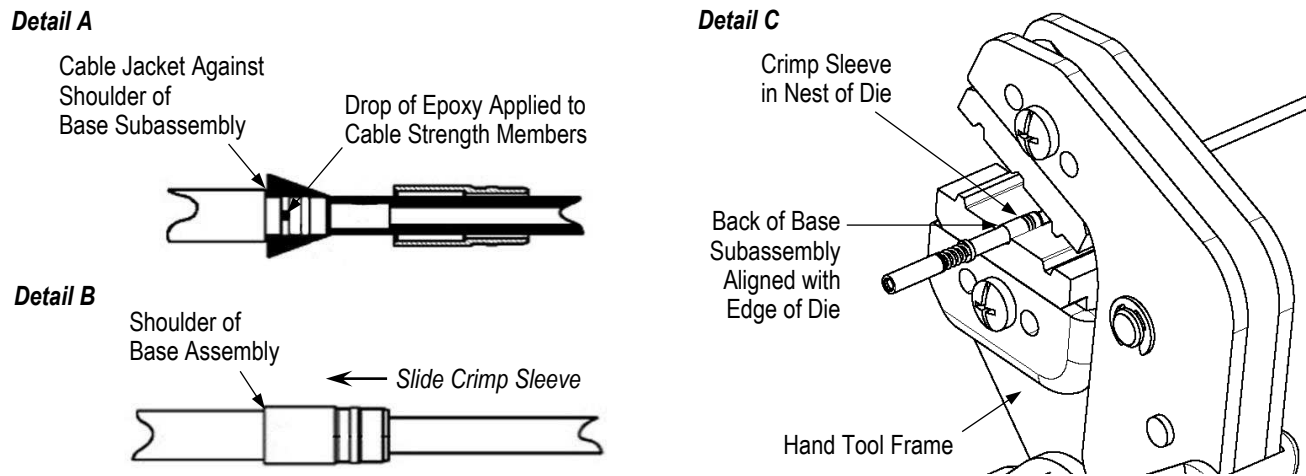

Figure 3
2. Arrange the strength members evenly over the shoulder of the base subassembly, then apply a drop of epoxy to the strength members. See Figure 3, Detail A.
3. Slide the crimp sleeve over the strength members until it bottoms against the shoulder of the base subassembly. See Figure 3, Detail B.
4. Using hand tool frame assembly and die set, terminate the crimp sleeve. When placing the crimp sleeve into the nest of the die, make sure to align the back of the base subassembly with the edge of the die. See Figure 3, Detail C. For detailed instructions on using the hand tool, refer to 408-4020.